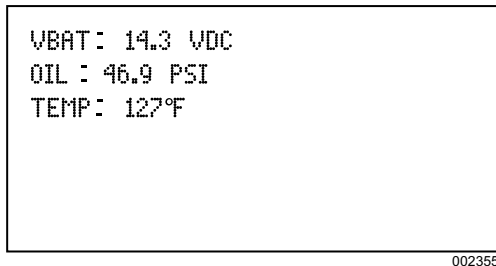

Figure 2-13. Engine Screen
- See Figure 2-13. The Engine screen displays battery voltage, oil pressure, coolant temperature and fuel level.